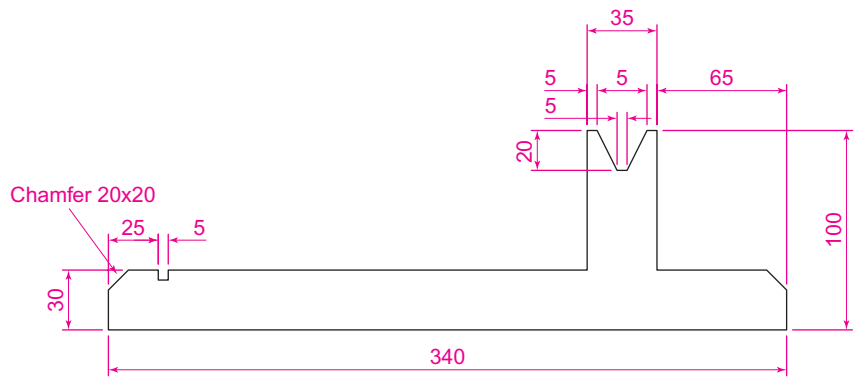

Fig. 13.10 Third example – outline for solid of revolution
3. In the **Front** viewport (top left-hand), construct a pline outline to the dimensions in Fig. 13.10.